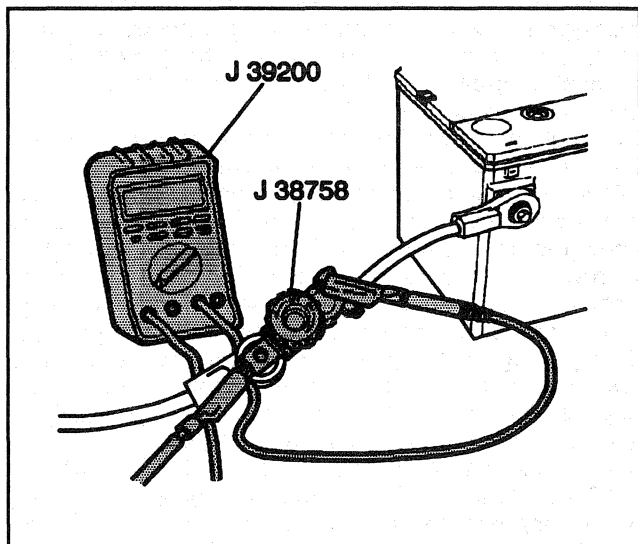

Figure 8—Parasitic Draw Test Switch Installed
2. Install the male end of J 38758 to the negative battery terminal (Figure 8).